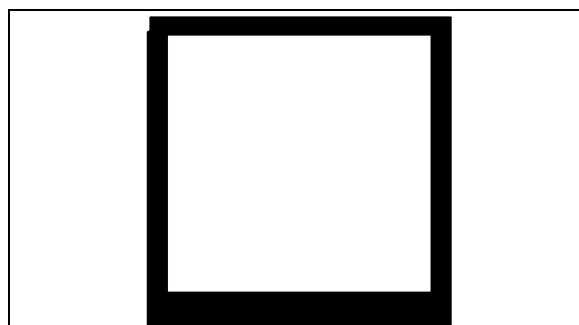

FIGURE 42 : SIDE PANEL INSTALLATION – SIKA 206 G+P APPLICATION
3. Apply Sika 206 G+P on the side panel as shown in figure 42 ;